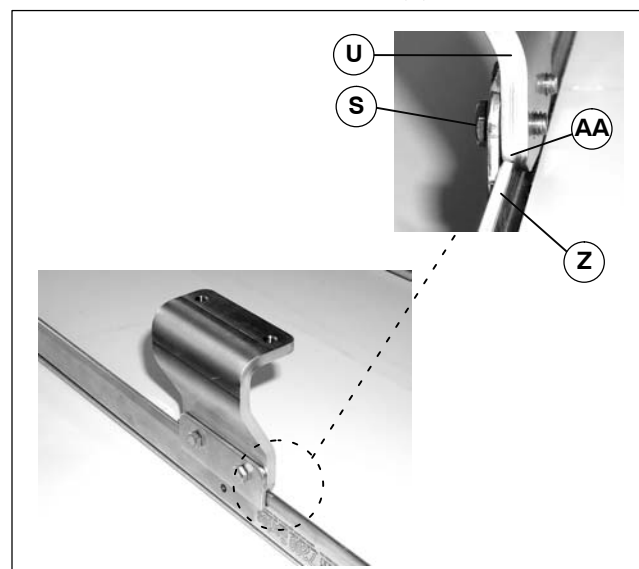

Figure 10
3. Attach stand/conveyor ear mount bracket (U of Figure 10) to bottom of conveyor (Z). Make sure notch (AA) on bracket straddles conveyor edge as shown. Snug-up two screws (S).